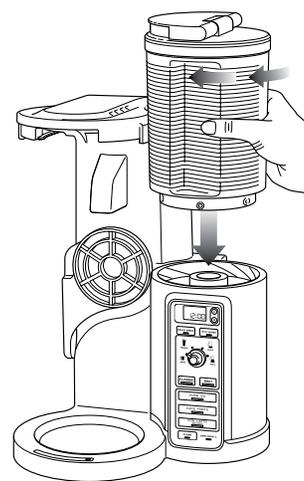

Fig. 4
- 2 Holding the water reservoir by the grip, twist anticlockwise to remove. **(Fig. 4)** Either flip the lid top over **(Fig. 4a)** or remove lid by twisting anticlockwise to remove **(Fig. 4b)**. Fill with water up to, but not exceeding the Max Fill Line (1.35 L). To replace the water reservoir, place on top of the base and twist clockwise until a click indicates it is locked in place.